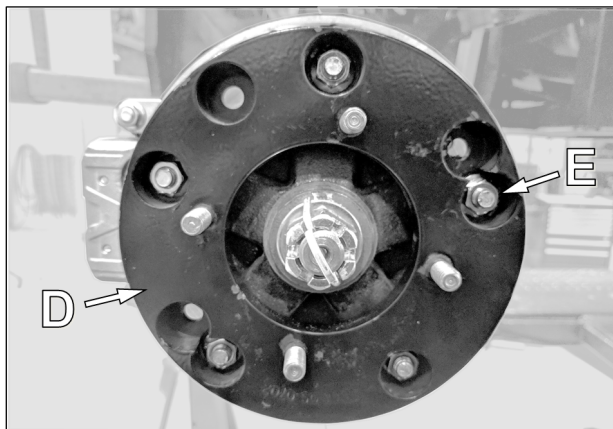

Fig. 18
6. Install wheel spacer (D) on front wheel hub using the provided lug nuts (E). See Fig. 18